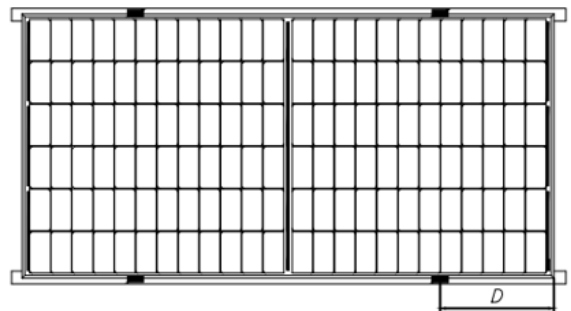

Fig.3 Rails overlapping the long-side frame
When double-sided PV modules are installed, each PV module must be fixed with at least 4 presses, as shown in Figures 3、4、5、6.
⑧ For the mounting shown in Figure 3, the overlap between the C surface of the assembly and the rail should be ≥ 25 mm. Astronergy's limited warranty will be void if improper clamps or improper installation is used.